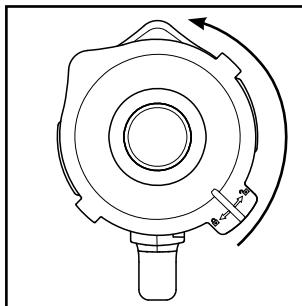

Fig. 1
- 1) Remove the blender **③** from the motor block **⑥** in a vertical, upward motion.
- 2) Remove the lid **②** by rotating it anticlockwise towards position  (see Fig 1) until you can pull it upwards.
- 3) Fill the blender **③** to at least to the lowest line of the scale **⑧** and at most to the MAX mark. For optimum results, we recommend the following maximum filling quantities: